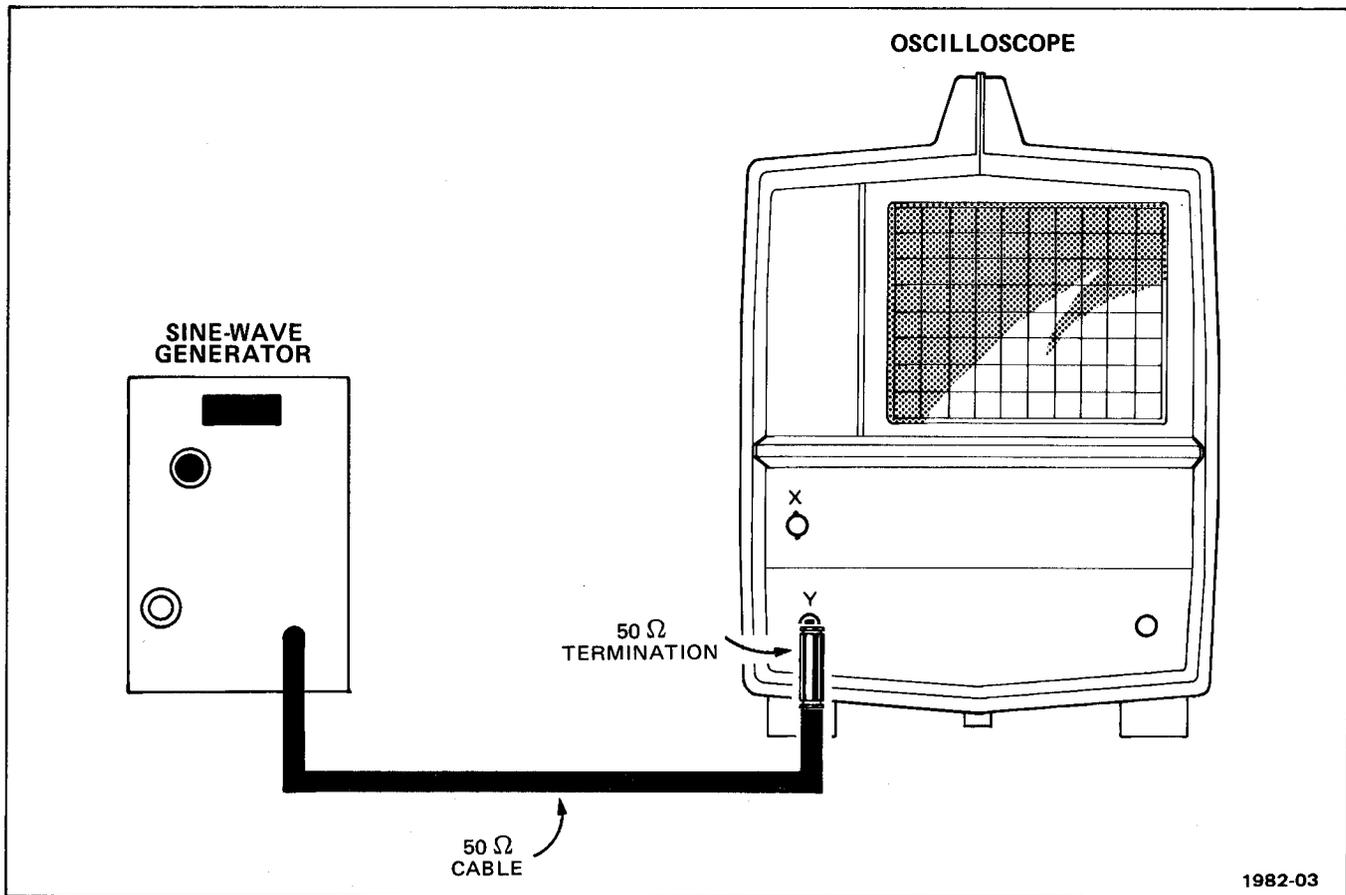

Fig. 3-3. Bandwidth check test setup.
- a. Connect test equipment as shown in Fig. 3-3.